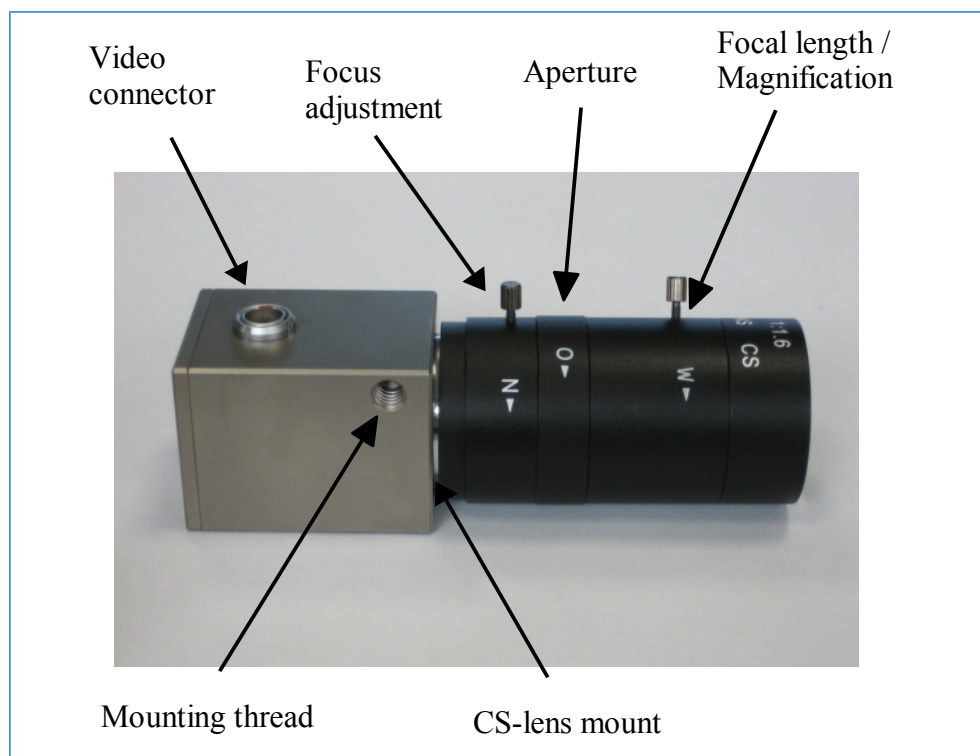

Figure 1:
Figure 1 shows the camera housing and the connected vario lens.
- The **focal length** defines the magnification of the recorded images. It can be adjusted by rotating the foremost ring (see figure 1).